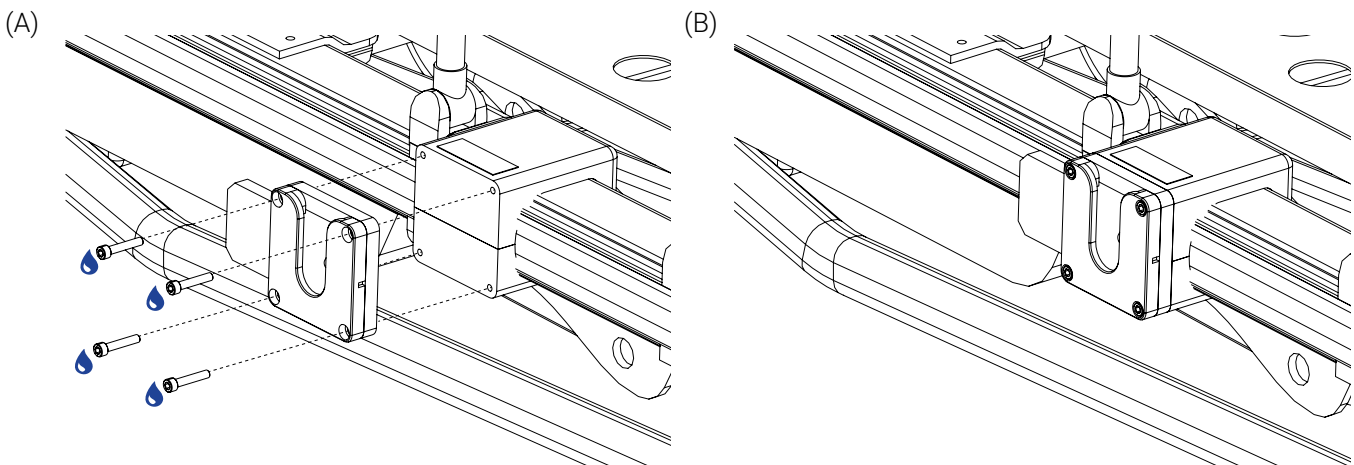

Figure 30: Installing the Flex Seqr locking mechanism on the Flex Seqr Stretcher Side
- Place the Flex Seqr locking mechanism on the clamp block, then partially tighten four (4) 10-32 in. X 1 in. socket head screws coated with medium strength thread lock adhesive, using a $\frac{5}{32}$ in. hex key (Figure 30).
- Tighten all four (4) screws to 68 in.-lb using a torque wrench.